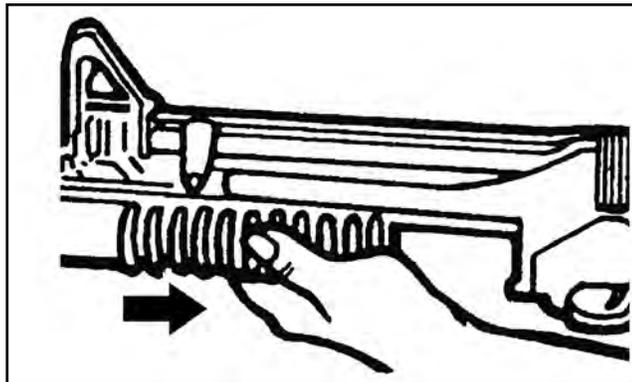

Figure 071-311-2125-8. Locking the M203 barrel
c. Install the handguard and secure with the slip ring (figure 071-311-2125-9).